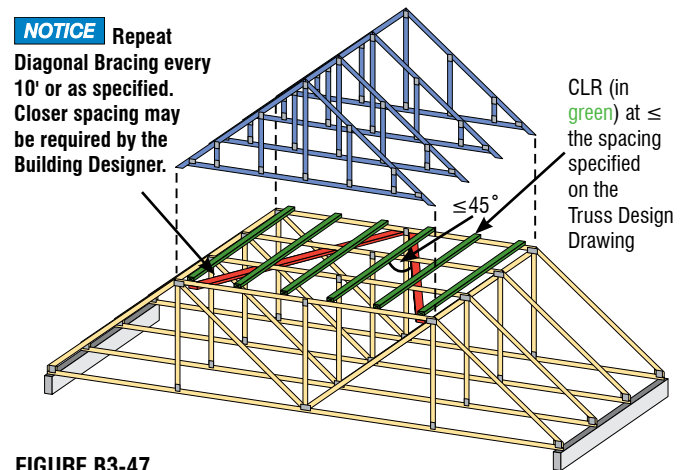

FIGURE B3-47
- Rows of 4x2 Stress-Graded Lumber CLR and Diagonal Bracing (see Figure B3-47)